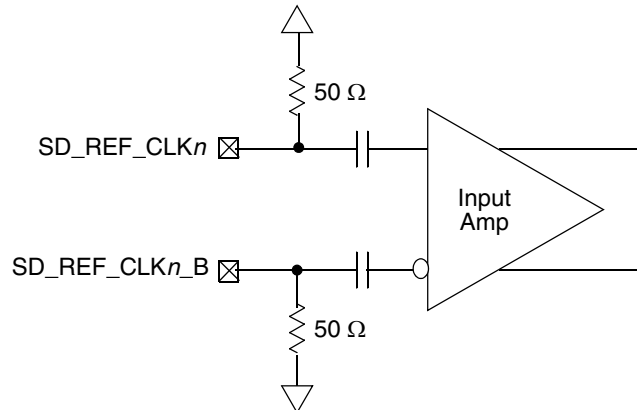

Figure 35. Receiver of SerDes Reference Clocks
- The SD_REF_CLKn and SD_REF_CLKn_B are internally AC-coupled differential inputs as shown in Figure 35. Each differential clock input (SD_REF_CLKn or SD_REF_CLKn_B) has on-chip 50-Ω termination followed by on-chip AC-coupling.